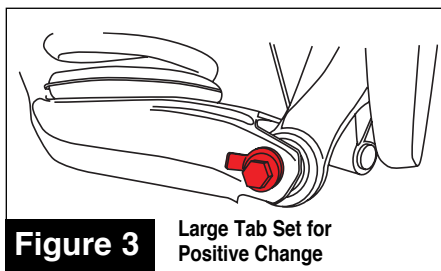

Figure 3
9. Adjust camber by turning bolt head (See Fig 3).